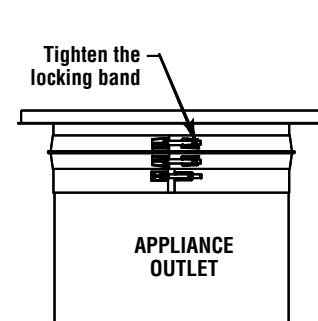

Figure 41
4. Tighten the Locking Band to hold and seal the adaptor in place. See **Figure 41** for typical installation.